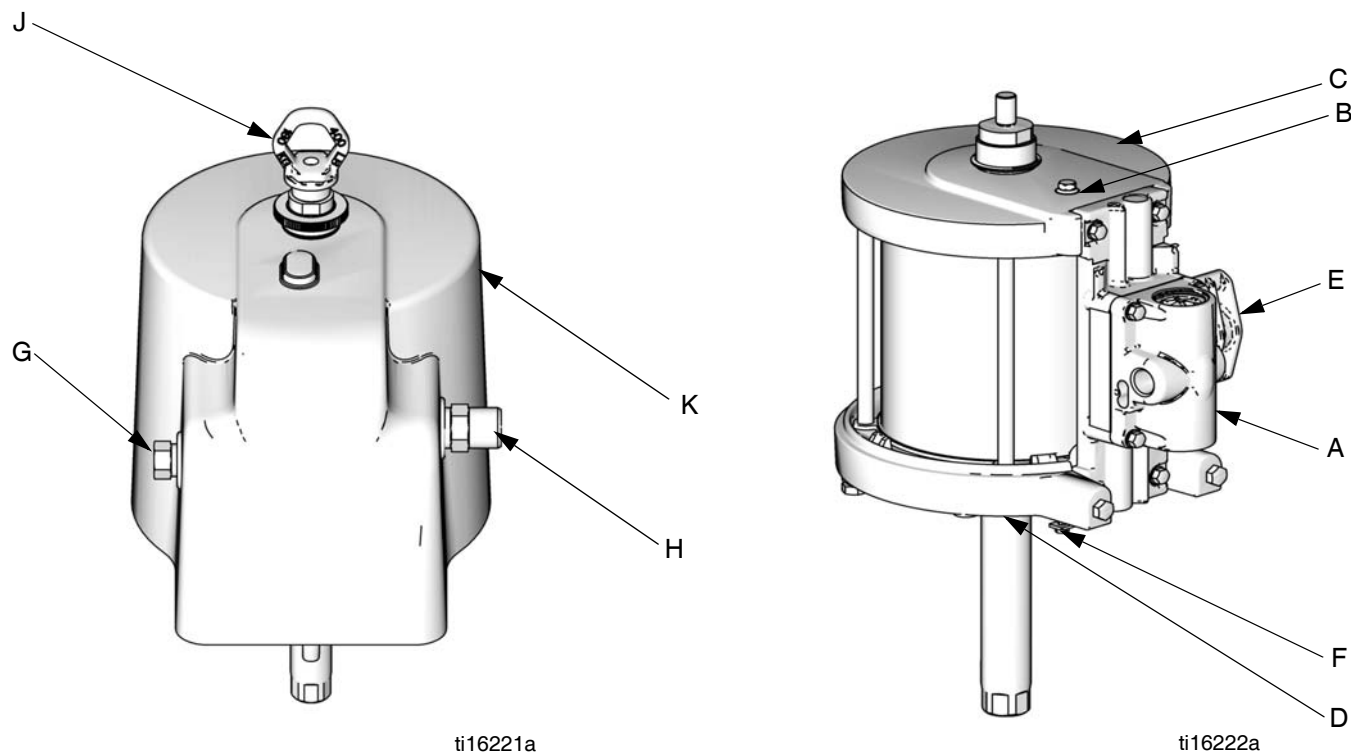

FIG. 1. SaniForce Air Motor components
See FIG. 1. Connect a ground wire (Graco PN 238909) to the ground screw (12) on the bottom cover of the air motor, under the shroud. Connect the other end of the ground wire to a true earth ground.